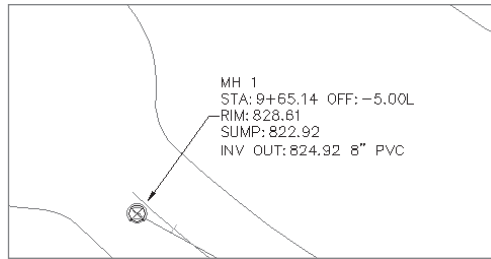

Figure 13.10
15. Select the label for MH 1. A grip will appear. Grab this grip and use it to drag the label somewhere off to the side so that the plan is more readable, as in Figure 13.10. Press Esc to exit the Label Drag mode. Repeat this process for each structure label.